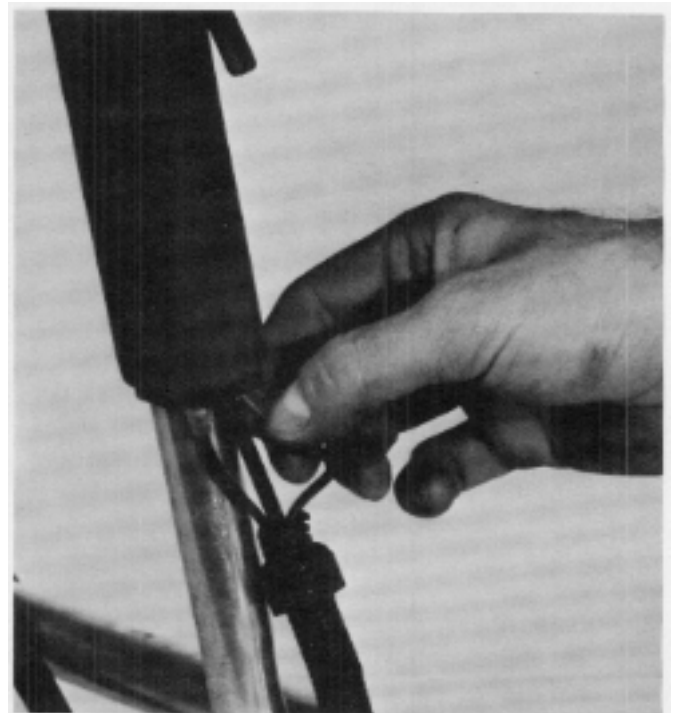

Figure 118
2. Pull the two ignition kill wires out of the rear of the grip. See Figure 118.